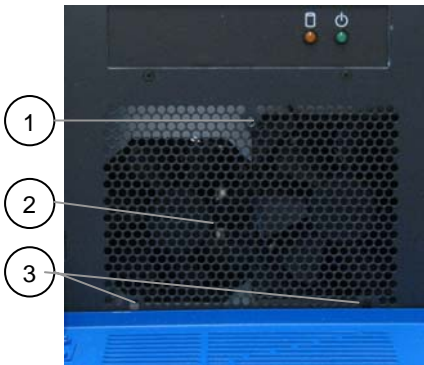
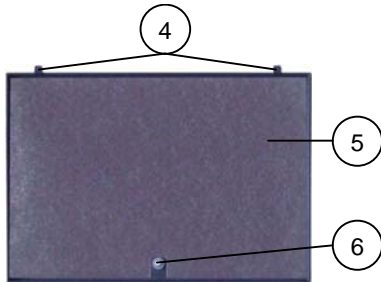

Fig. 26: Location for filter mat holder
Fig. 26a: Filter mat holder with filter mat
- After cleaning and drying the filter mat, replace it into the filter mat holder. Replace the filter mat holder to the front side of the chassis (see Fig. 26, pos. 3 and Fig. 26a, pos. 4).
**Legend for figures: 26, 26a and 26b:**